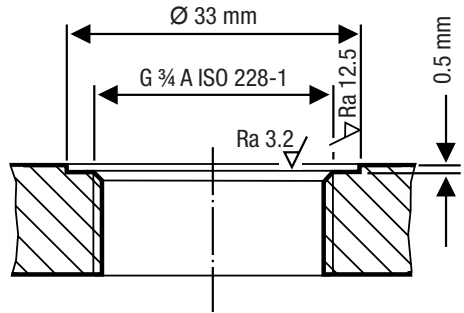

Fig. 9
- Inspect the sealing surfaces of the tank threaded standpipe or flange cover to ensure they are perfectly machined, see Fig. 9.
Sealing surfaces must be perfectly machined, as shown in Fig. 9.